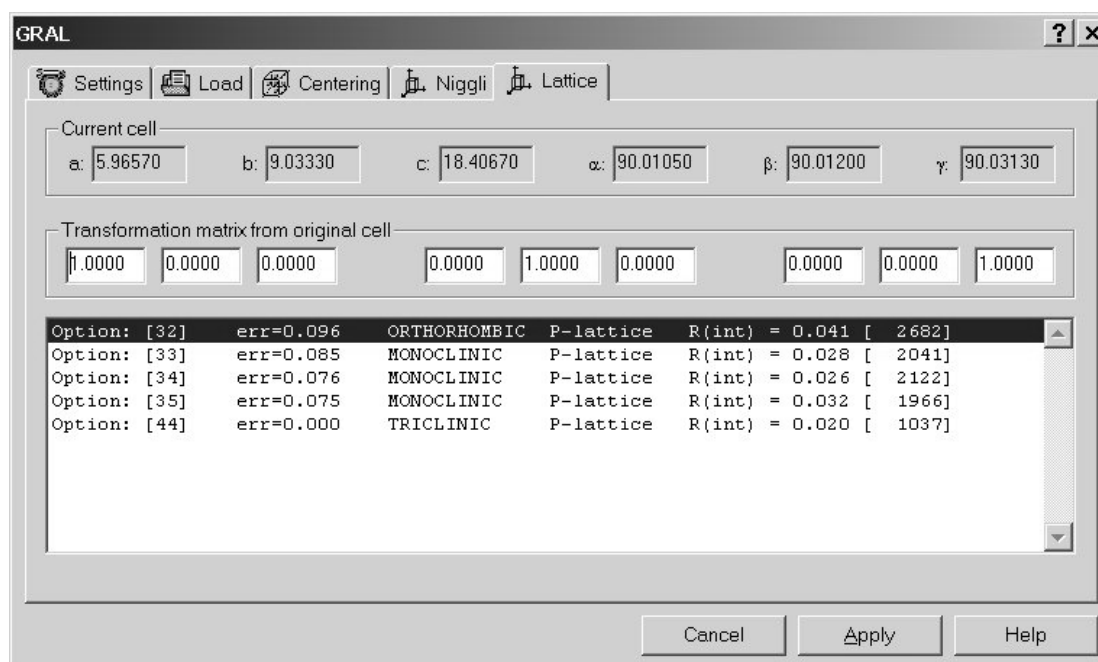

Figure 6.5.36 Screenshot of the GRAL plug-in Lattice Window
7. The GRAL plug-in provides a list of possible Bravais lattice and highlights in blue the programs' preferred choice. Figure 6.5.36 shows the ORTHORHOMBIC P-lattice as the preferred choice. Clicking on "**Apply**" will accept the plug-ins' choice, however, anyone of the alternatives may be selected by clicking on the option in the text box and then clicking "**Apply**".